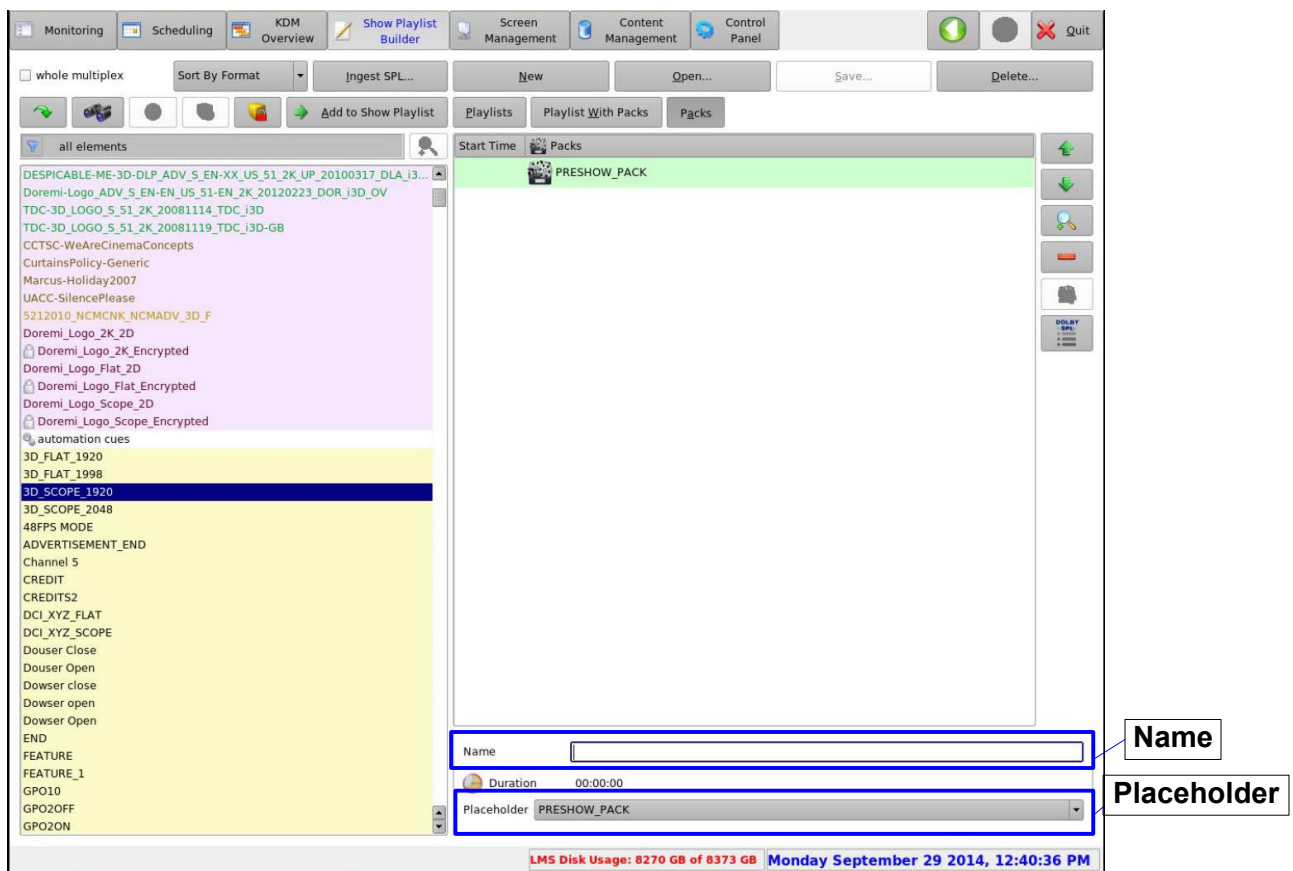

Figure 5: SPL Pack
- Enter a pack name or select among the pre-defined playlist packs (PRESHOW_PACK, TRAILER_PACK, FEATURE_PACK, or POSTSHOW_PACK, Figure 5) from the placeholder list.